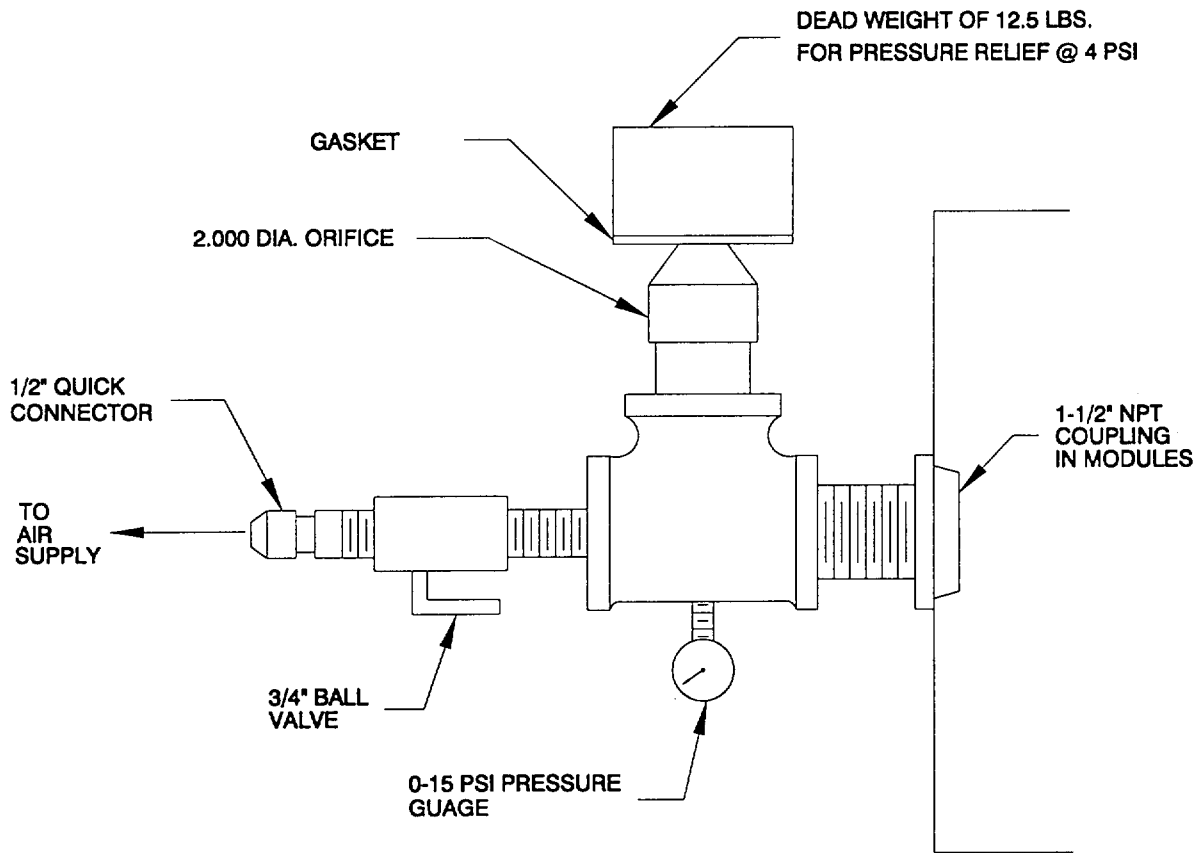

Figure 2-87. Typical Pneumatic Test Setup.
- d. Test. (figure 2-87)
- (1) Remove pipe plug (7) from one of three locations at side of module (8).
- (2) Install pressure fitting and gauge (typical setup shown in figure 2-87) into module through chosen pipe plug location.
- (3) Apply pressure with compressor at 3 psi by attaching air hose with test setup (figure 2-87) through MCF module pipe plug location. Hold pressure in module for 5 minutes.
- (4) If 3 psig internal pressure cannot be maintained, apply liquid leak detector to all external seams and weld joints. Inspect all seams for evidence of leakage. Mark modules at all areas of observed leakage. Report any leakage to the next higher maintenance level. Seams must be welded watertight before proceeding with assembly for mission.
- (5) When test is completed satisfactorily, release the pressure from the module.
- (6) Reinstall the plug to the module test location.
- (1) Remove pipe plug (11) from one of three locations at side of module (12).
- (3) Apply pressure with compressor at 3 psi by attaching air hose with test setup (figure 2-87) through MCF module pipe plug (11) location. Hold pressure in module for 5 minutes.